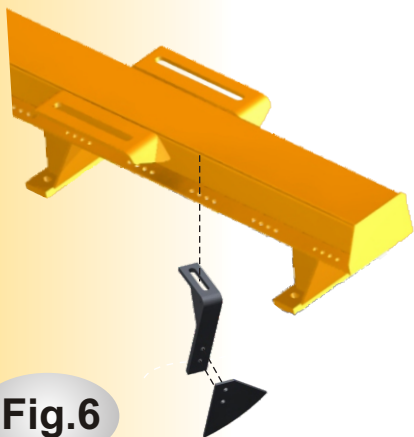

Fig.6
- French screws with nuts and washers allow their fixation (figure 6).